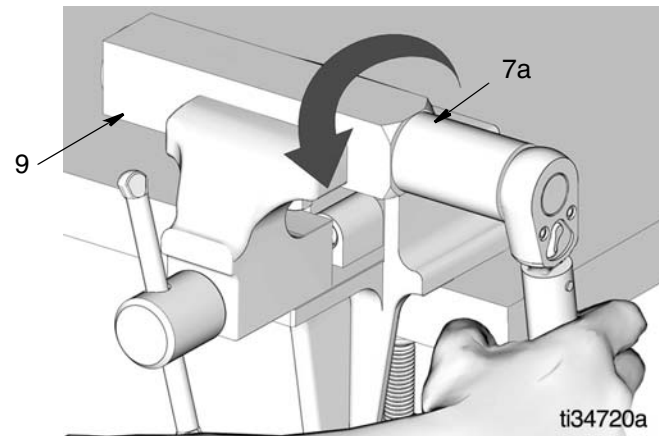

FIG. 5
10. Use a deep well, 15/16 inch (24 mm) socket on packing hex (7a) (FIG. 5) to turn it counter-clockwise just until the piston assembly is loose enough to hand-turn.